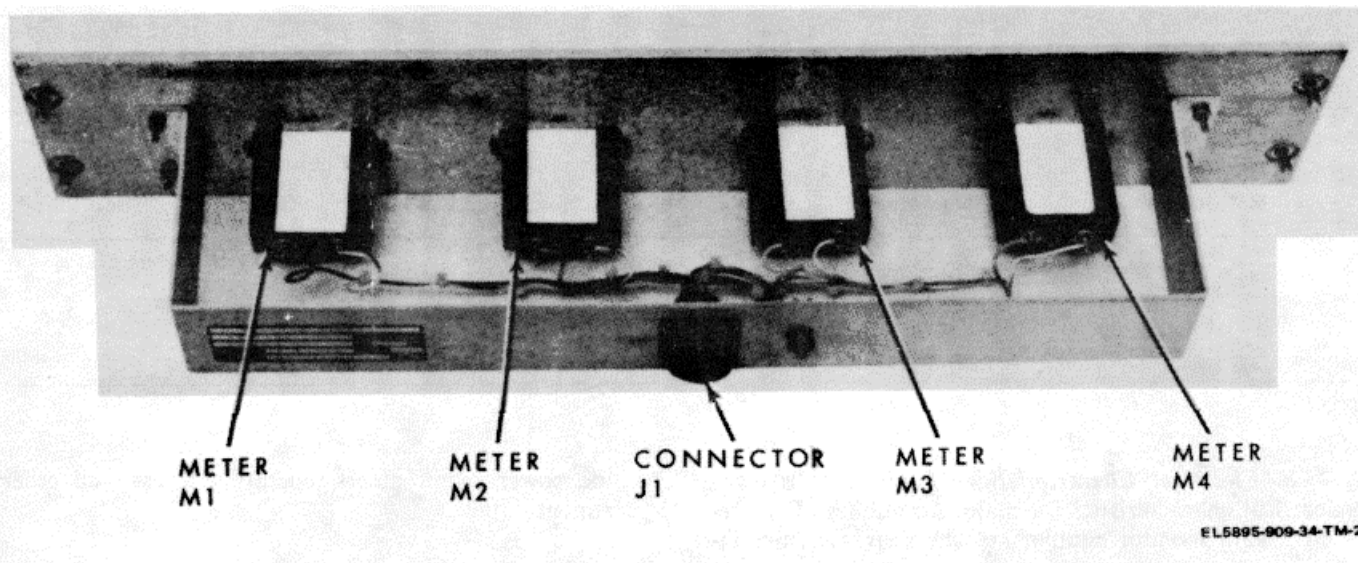

Figure 1-2. Pilot carrier monitor panel 14A26.
1.6. Pilot Carrier Monitor Panel 14A26 Description (fig. 1-2).